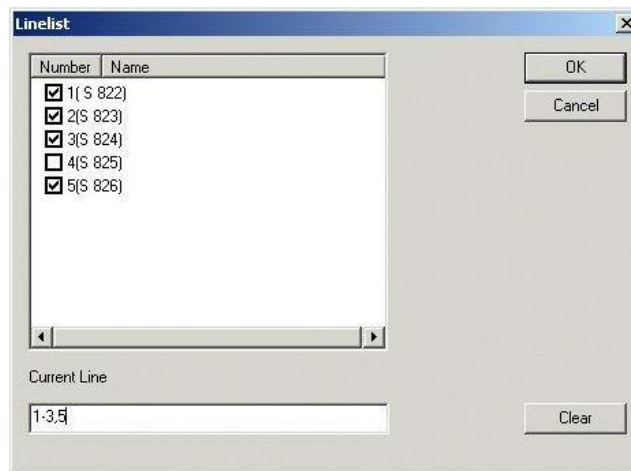

Figure 72: Line Number List Dialog – Enter Line Numbers
- 2) Click button next to **Line Number Filter**. The **Linelist** dialog appears. In this dialog, you can see all available Line Numbers. *Please refer to the Figure 72.*